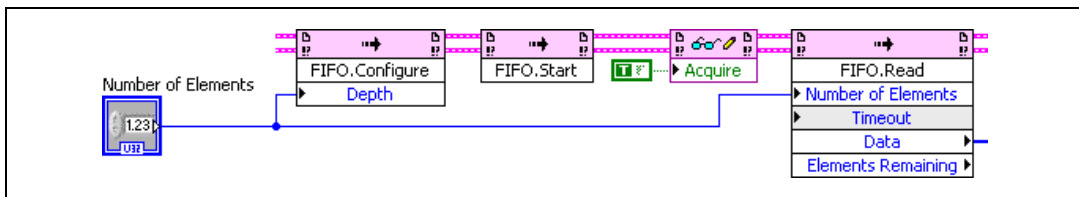

Figure 18. Wiring the FPGA VI for Data Acquisition
- Create a control named **Number of Elements** and wire it to the **Depth** parameter in the **FIFO»Configure** method and to the **Number of Elements** parameter in the **FIFO»Read** method, as shown in Figure 18.
17. Wire your block diagram as shown in Figure 18.